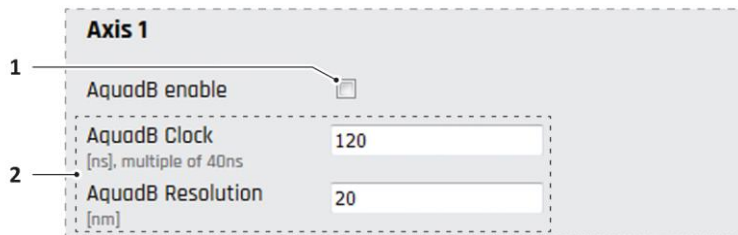

Figure 29 Output tile, "Axis" section
- To enable the communication of positioning information, check the output enable checkbox (Figure 29/1).
- To set the communication parameters, type in the desired values into the output parameter setting fields (Figure 29/2).